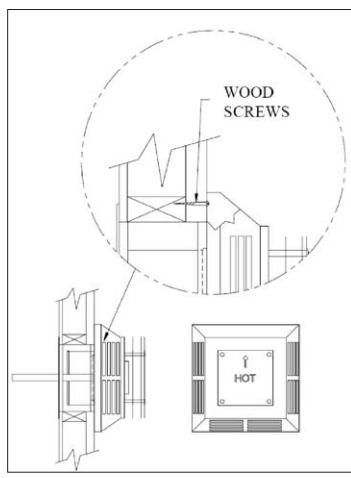

Figure 36: Fastening Horizontal Termination Cap in Place.
- (1) Any horizontal run of vent must have a $\frac{1}{4}$ inch (6mm) rise for every 1 foot (305mm) of run towards the termination. Never allow the vent to run downward. This could cause high temperatures and may present the possibility of a fire.
- (2) The location of the horizontal vent termination on an exterior wall must meet all local and national building codes, and must not be easily blocked or obstructed. Termination clearances must comply with the VENT TERMINATION RESTRICTIONS section.
Step 4. For a Square Horizontal Vent Termination, place the vent cap in the center of the square hole and attach to the exterior wall with the four wood screws provided (refer to Figure 36).